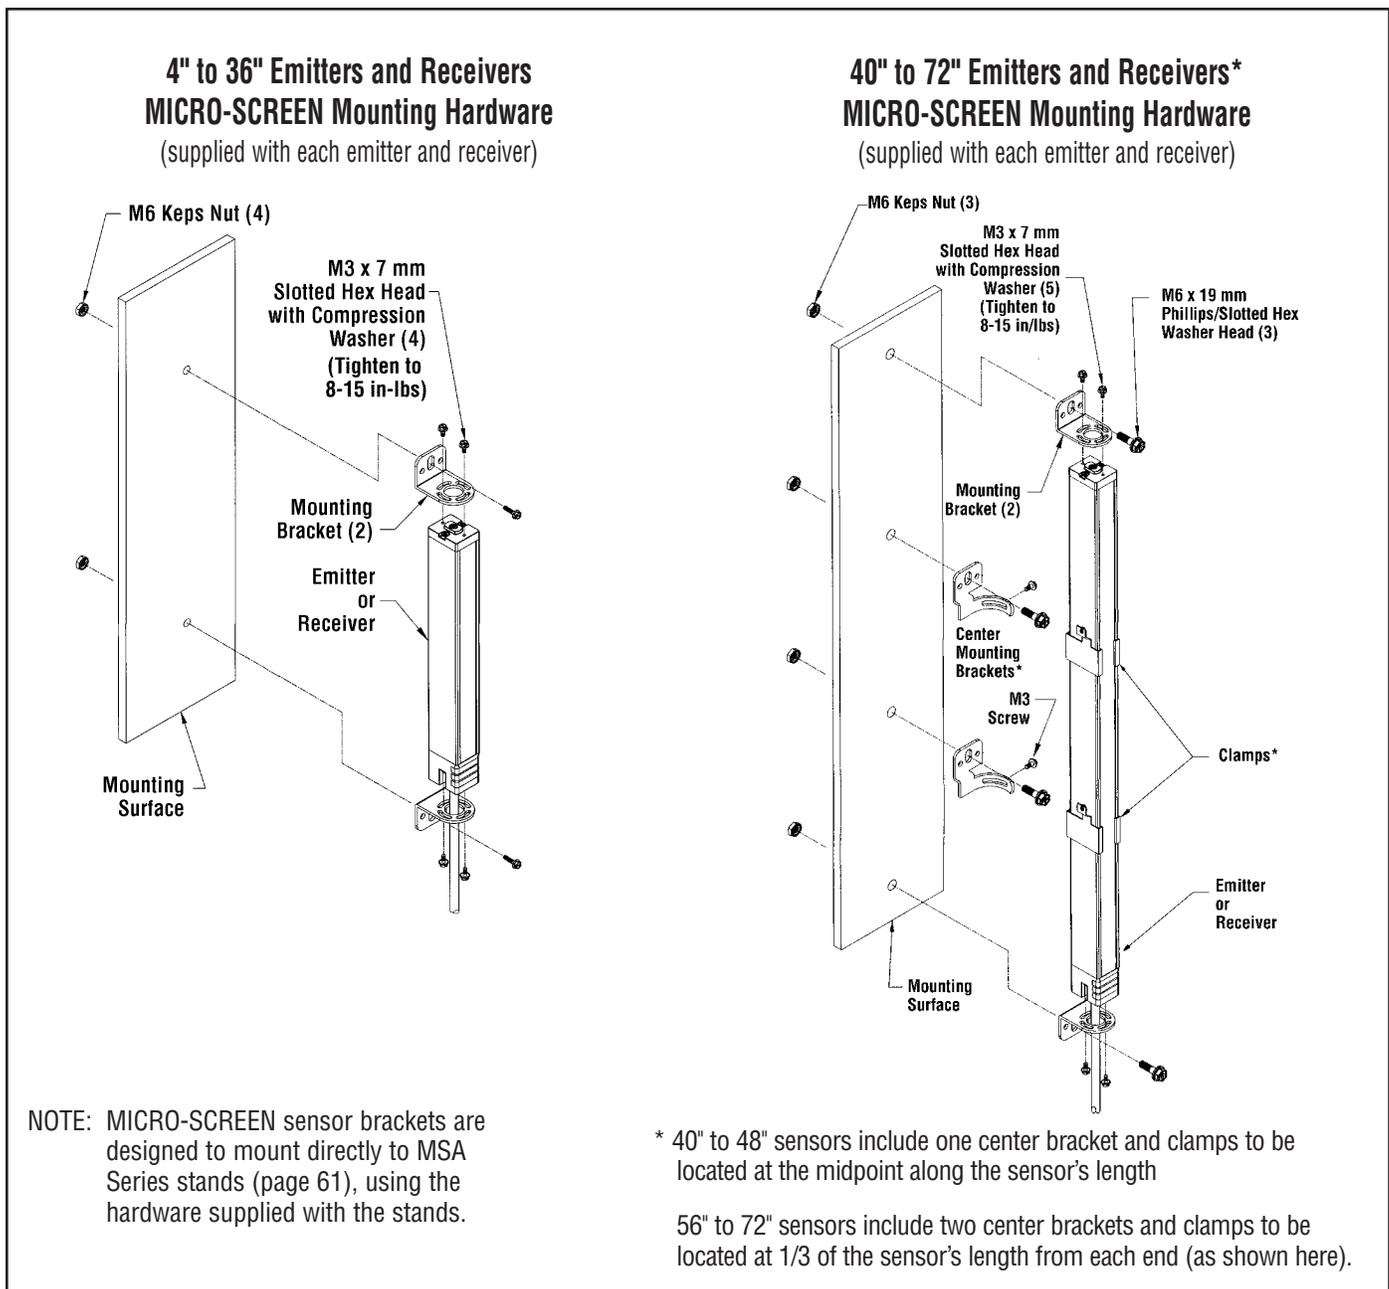

Figure 14. Emitter and receiver mounting
From a common point of reference, make measurements to locate the emitter and receiver in the same plane with their midpoints directly opposite each other. **Important: The connector ends of both sensors must point in the same direction (see drawings and WARNING, page 18).** Mount the emitter and receiver brackets using M6 bolts and Keps nuts (all supplied); see Figure 14.
Center mounting brackets must be used with longer sensors to provide sensor stability. Sensors 40" to 48" long are supplied with one center bracket, which should be positioned at the center of the sensor's length. Sensors 56" to 72" long are supplied with two center brackets, which should be positioned 1/3 of the sensor's length from each sensor end (see Figure 14). Refer to Figure 14 for the following steps.
- 2) Compress the foam spacer and slide the clamp along the length of the sensor housing to align the clamp with the center mounting bracket as shown in Figure 14. Three separate mounting holes are provided on the clamp to allow for all possible mounting configurations.